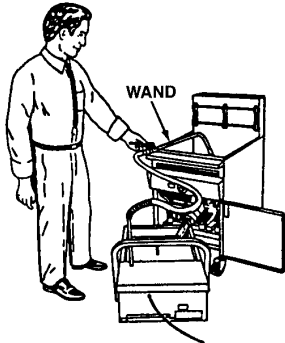

Figure 2.2: Flush out fryer
2. Turn on pump and flush all crumbs from bottom of fryer into filter. Flush out fryer completely (See Figure 2.2).